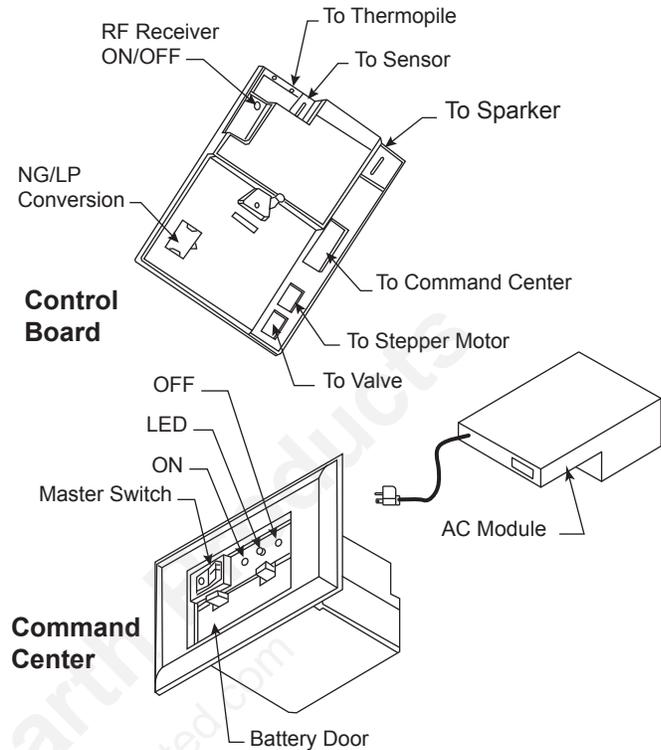

Figure 48 - Signature Command System Components
1. The RF receiver button located on the Control Board must be in the on position before the learn function can begin. Use paper clip to depress button. One beep for RF receiver ON or two beeps for RF receiver OFF will be given as confirmation. Refer to *Figure 48* for location.